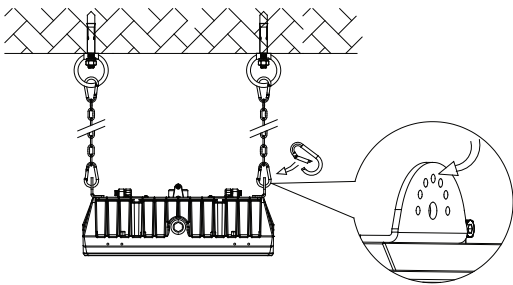
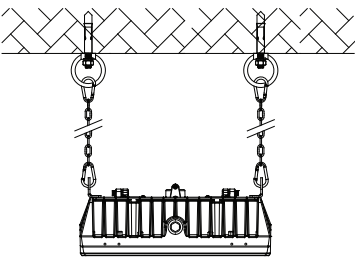

Figure 15
Figure 16
- 2.Hang the fixture into the lifting hook or chain.(Figure 15)(Figure 16)